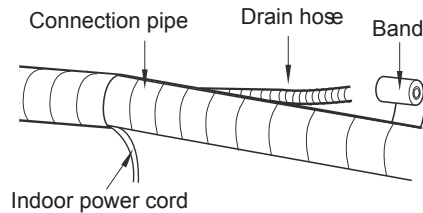

Fig.15
- (2) Reserve a certain length of drain hose and power cord for installation when binding to a certain degree, separate the indoor power and then separate the drain hose. (As show in Fig.15)
- (3) Bind them evenly.
- (4) The liquid pipe and gas pipe should be bound separately at the end.